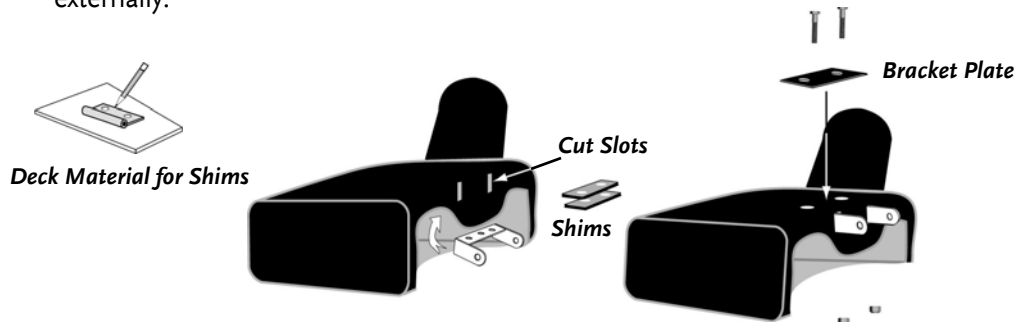

Figure 32
- a) Slot the Universal Deck Adapter (**Figure 32**) to receive the Hinge Plate Arms. You can do this by drilling 1/4" holes at the top and bottom of the slot locations and inserting the Saw Blade into the hole to remove the remaining material or cutting directly from the edge of the contour.
- b) Shims (**Figure 32**), made by tracing the outline and hole locations of the Bracket Plates or Mower Deck Hardware onto a piece of material that was cut out of the Universal Deck Adapter, are then placed beneath the hardware to bring it to level.
- c) The Universal Deck Adapter Hinge with appropriate shimming, is inserted into the slots and then bolted to the under side of the Universal Deck Adapter (**Figure 32**) with the Backing Plate mounted externally.